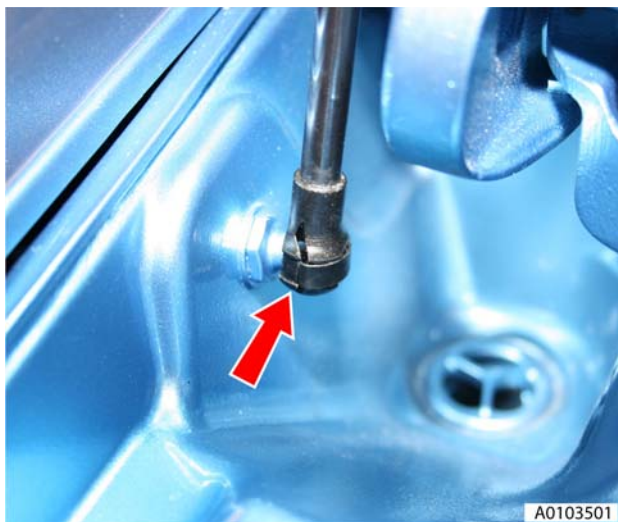

Figure 2
3. Release clip securing LH gas strut to body and remove gas strut (see Figure 2).